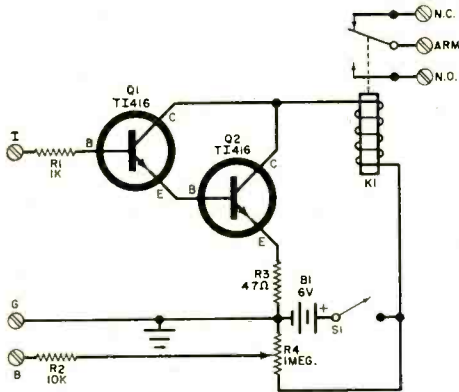

Fig. 1. As little as 0.2  $\mu$ a. at 1 volt is enough to trigger relay; up to 50 megohms can be sensed.
*Super-Sens* is essentially a two-transistor, high-gain, direct-coupled d.c. amplifier driving a standard sensitive-type electromagnetic relay. See Fig. 1. Transistors *Q1* and *Q2* are connected in a modified Darlington circuit. (A Dar-